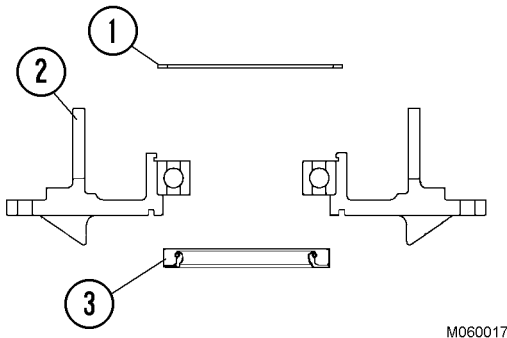

FIGURE 6-17. FRONT BEARING RETAINER DISASSEMBLY
- a. Remove snap ring (1, Figure 6-17).
- b. Use a punch to drive the front oil seal (3) out of the bearing retainer bore.